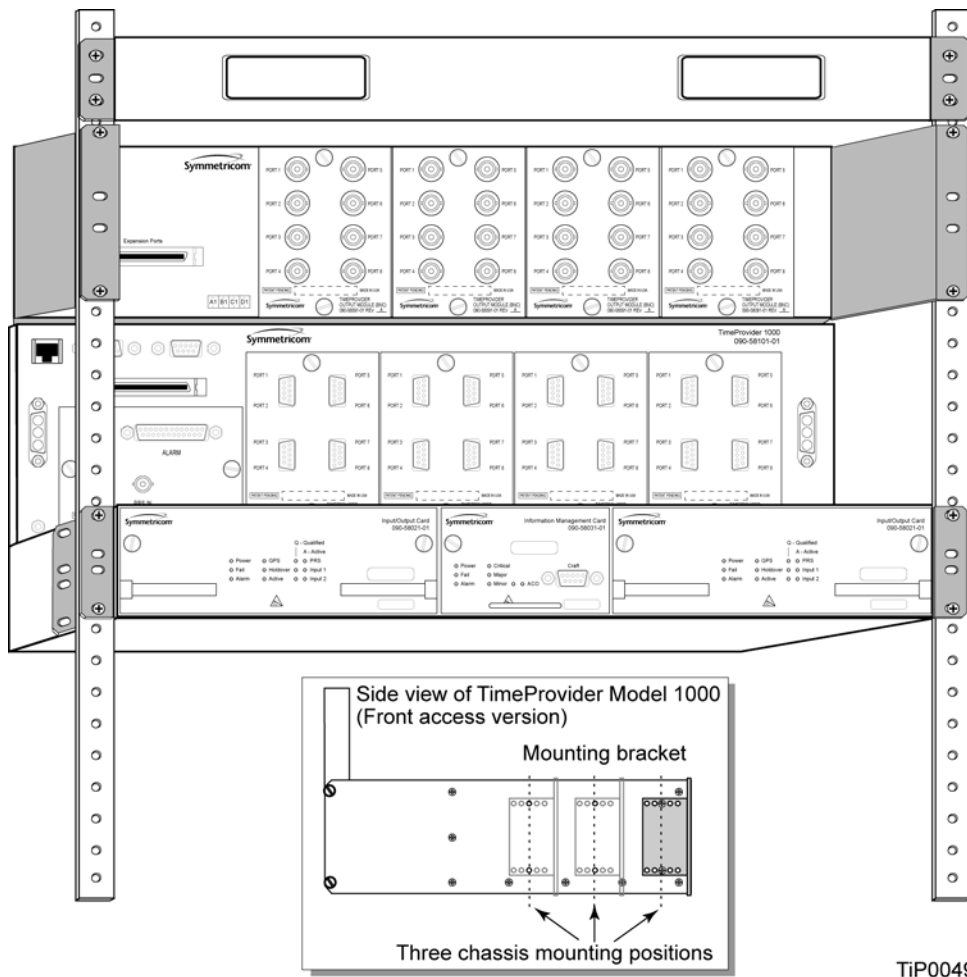
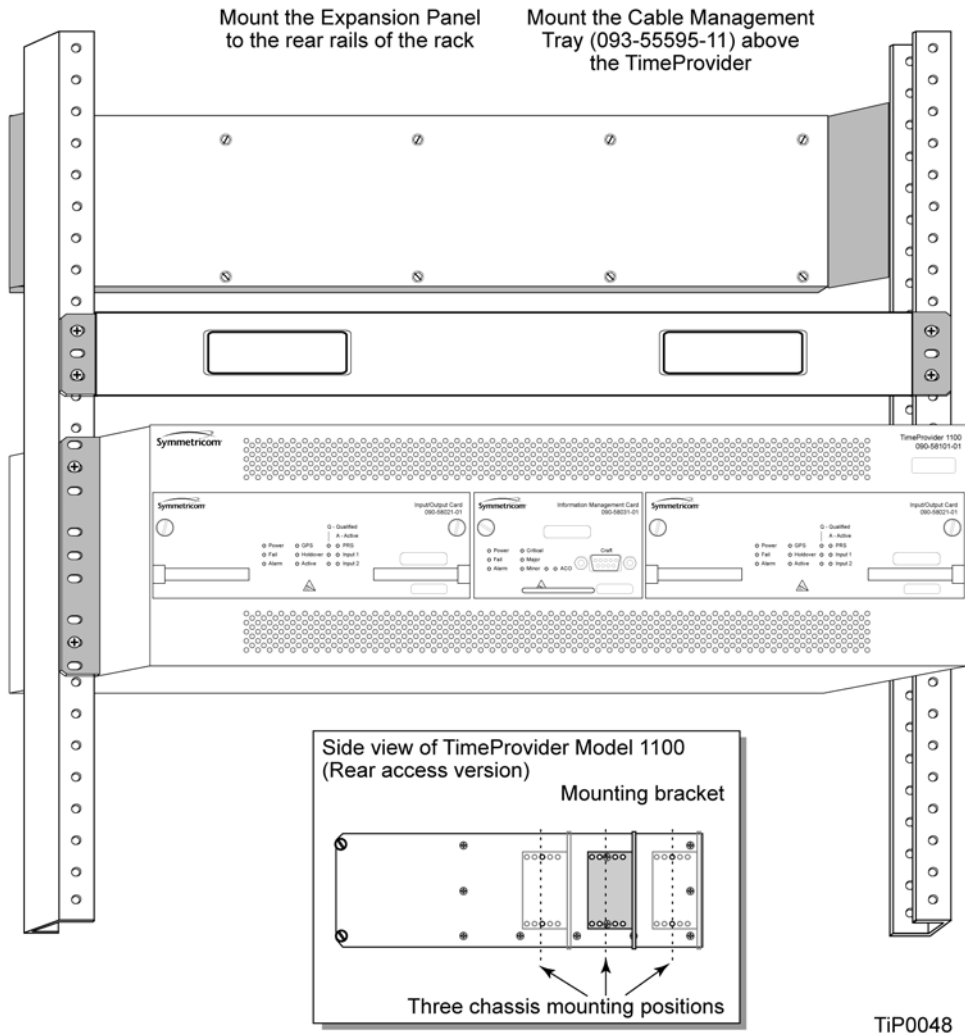

Figure 3-1. Installing the Model 1000 Shelf, Expansion Panel, and Cable Management tray – 19-inch Rack
Figure 3-2. Installing the Model 1100 Shelf, Cable Management tray, and Expansion Panel – 19-inch Rack
The optional Cable Management tray (093-55595-11) allows you to neatly bundle input and output cables from the rear-access TimeProvider Model 1100. A sample installation with the cable management tray is shown in Figure 3-2.
1. Attach the rack mounting ears to the shelf using 8-32 x 3/8-inch screws. Ensure that the ears are attached at equal distances from the front of the unit, as shown in Figure 3-1 or Figure 3-2.